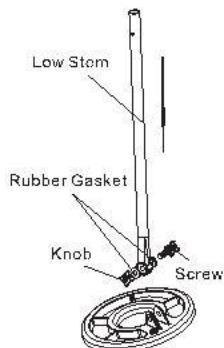

Fig.2
2. Unscrew the lock knob on the search coil, and take off the bolt. Attach the lower stem to the search coil, and lock it(see Fig.2). Note: the rubber gasket should be placed properly.